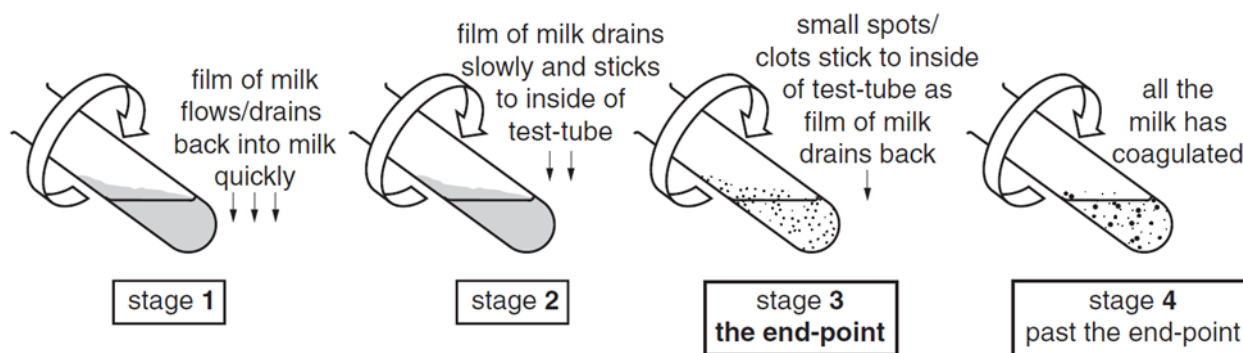

Fig. 1.1
When a mixture of milk, calcium chloride solution and **E** is gently turned in a test-tube, the coagulation goes through the stages shown in Fig. 1.1.
- 7 Put 1 cm³ of **E** into the test-tube, so that it runs down the side of the test-tube and forms a layer on the surface of the mixture, as shown in Fig. 1.1.
Continue to rotate it while observing the mixture until the end-point shown in stage 3 of Fig. 1.1.